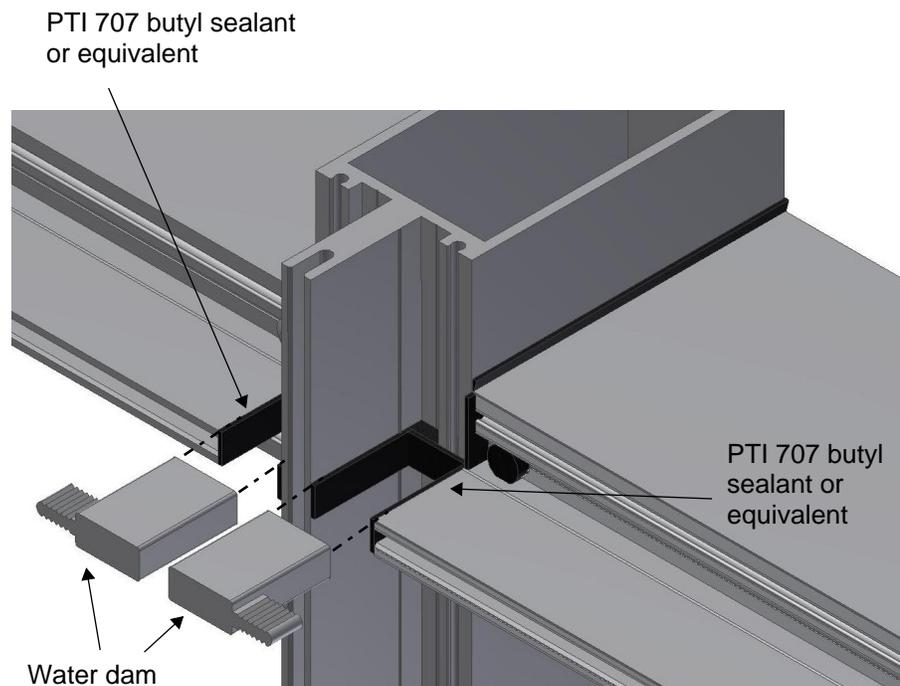

Figure 13: After sealing the gap between the horizontal and vertical, insert a water dam into the gap.
- Wherever a horizontal meets a vertical, apply a bead of butyl sealant across the vertical member, as shown in Figure 13.